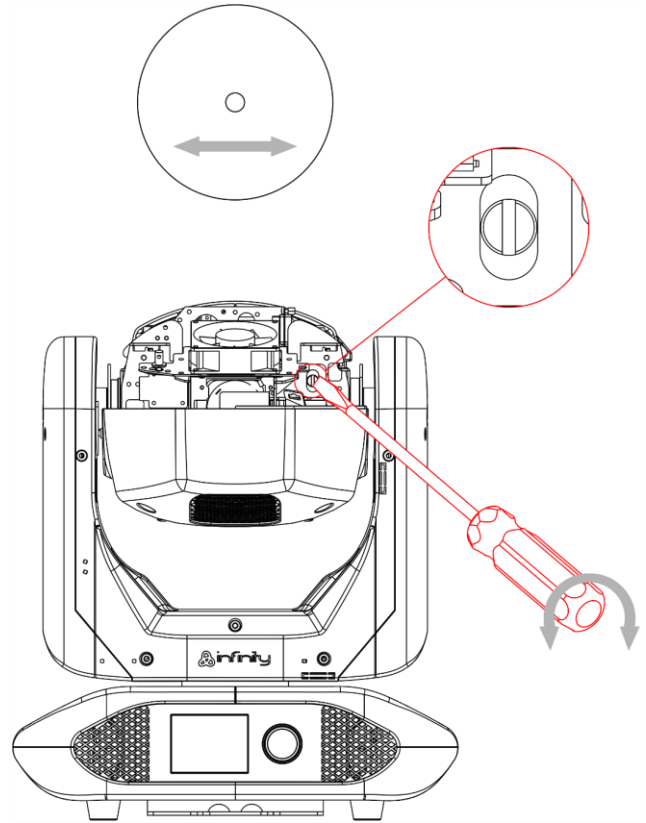

Fig. 08
- 03) Using a flat-head screwdriver turn the adjustment screw clockwise to move the hotspot to the left and counterclockwise to move it to the right (Fig. 08).